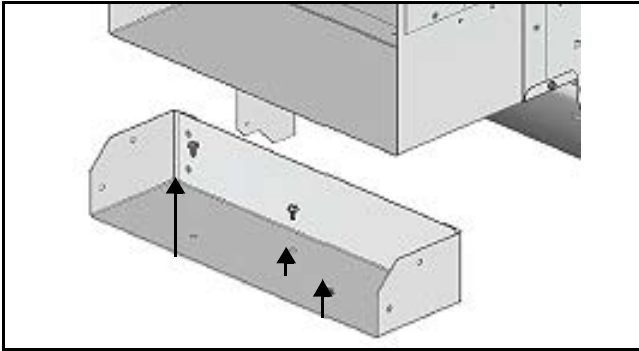

Fig. 29
6. Remove the horizontal blower bracket by removing the three screws and discard. (See Fig. 29.)